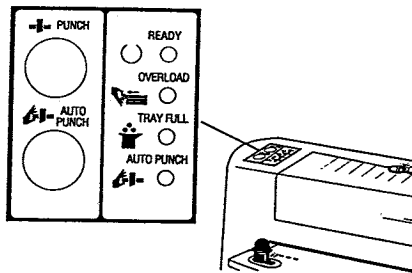
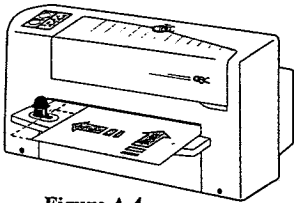

Figure A.1
Figure A.4
C. PUNCH ACTIVATION - When the Power Punch is first turned on, it is automatically ready for either "Punch Button" or "Foot Pedal" activation. To activate the "Auto Punch" option (not available on PP-30 version) press the "Auto Punch" button on the control panel (See Figure A.1).
3. Insert a trial sheet **flush right**, completely into the Punching Throat, then move it to the left against the Edge Guide. (See Figure A.4).
When using the **Punch Button** or **Foot Pedal** activation. Insert the paper stack **flush right** completely into the punch throat, then slide the stack to the left against the Edge Guide (see Figure A.4). finally, depress the **Foot Pedal** or **Punch Button** to punch the paper.
When using the Auto Punch, first select the "Auto Punch" button on the control panel (see Figure A.1). Move the paper stack **flush right**, completely into the punching throat. Next, *quickly* slide the stack to the left against the Edge Guide to activate the automatic paper punch (see Figure A.4). Be sure the paper stack is completely in the punching throat before moving left to the Edge Guide to insure accurate punching alignment.